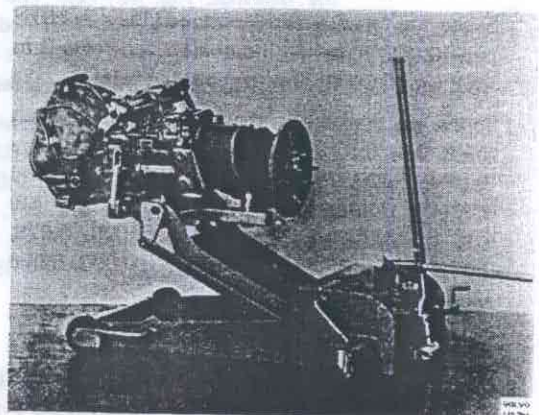

Fig. 43-129. Gearbox on jack
1. Place the gearbox on a jack, see Fig. 43-129.